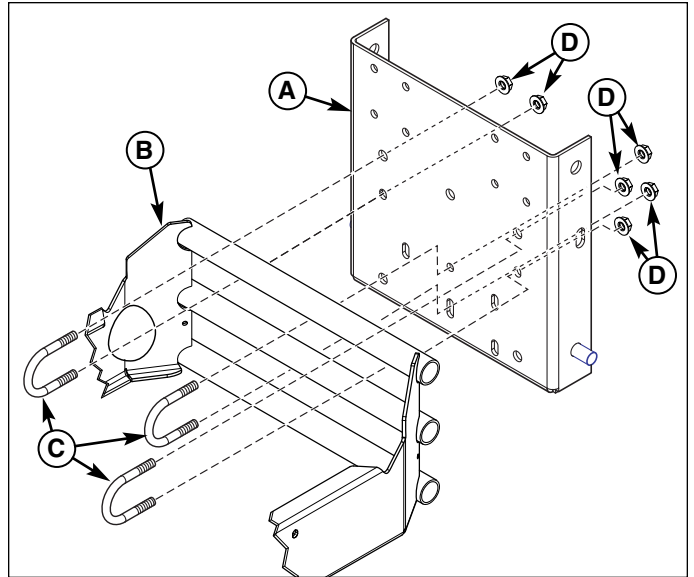

Figure 14. Install Hitch Plate (Tube Style Bumper)
1. Center and secure hitch plate (A, Figure 14) to the bumper (B) with u-bolts (C) and locknuts (D).